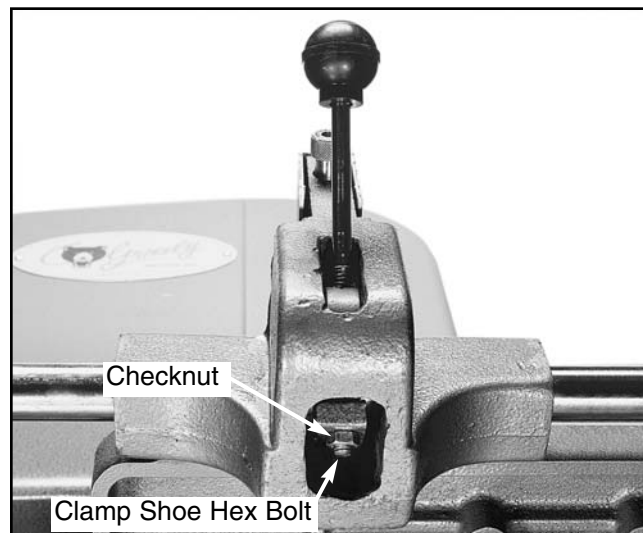

Figure 26. Location of checknut.
2. Loosen the checknut below the clamp shoe shown in **Figure 26**.